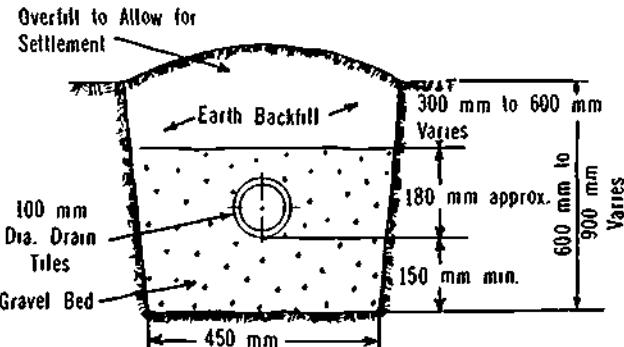

Figure 24-12. Cross-Sectional View with Typical Specifications for Absorption Trench
f) Trenches vary in width from 450 mm to 900 mm, and in depth from 600 mm to a maximum of 900 mm. The sides may be vertical or widen out to 900 mm or more at the top in heavy clay soils. See Figure 24-12 for a suggested absorption trench cross-section.